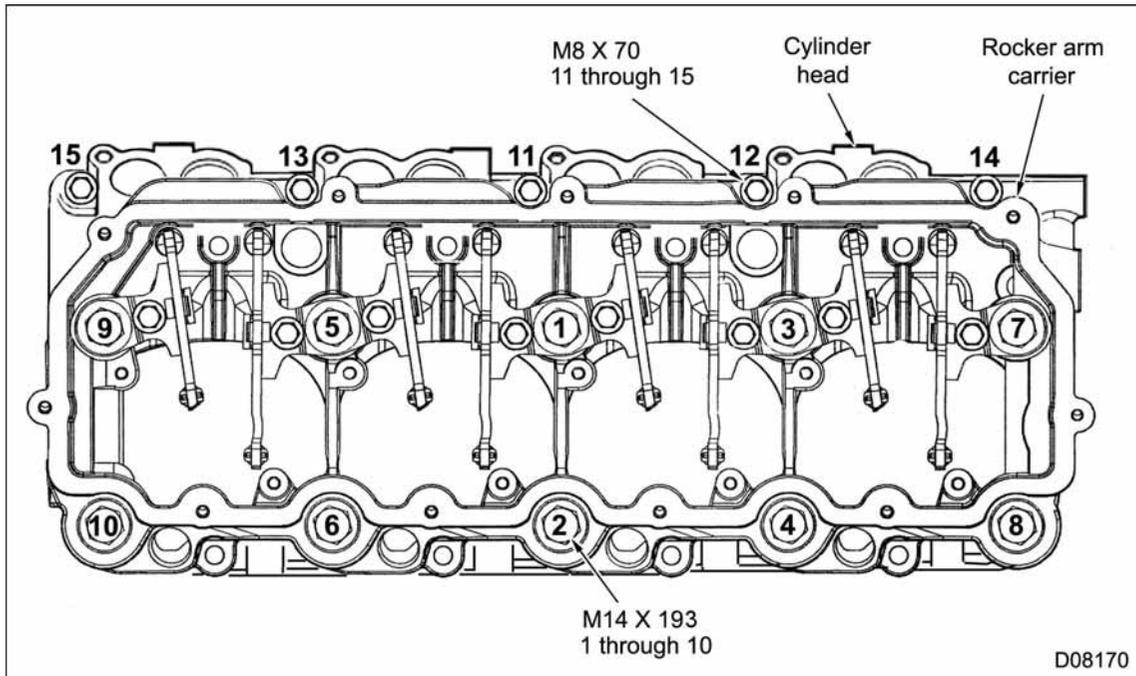

Figure 249 Special torque sequence for cylinder head mounting bolts (typical)
1. See Cylinder Head Mounting Bolt Special Torque Sequence (Figure 249) for the following steps: